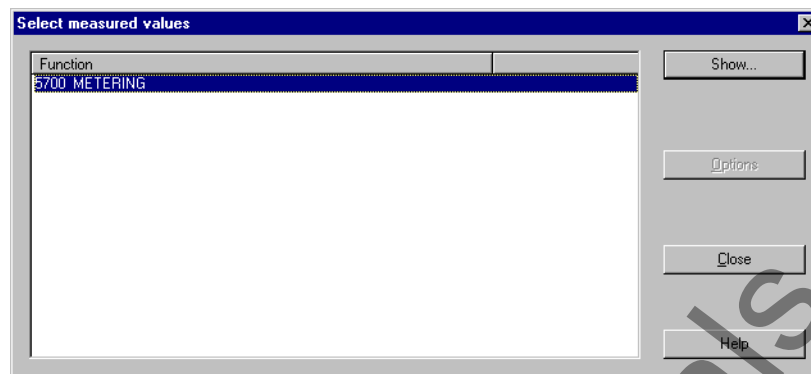

Figure 6-9 Select measured values window in DIGSI
- ❑ Double-click **Measurement** in the function selection. The Select measured values window opens (Figure 6-9, page 221).